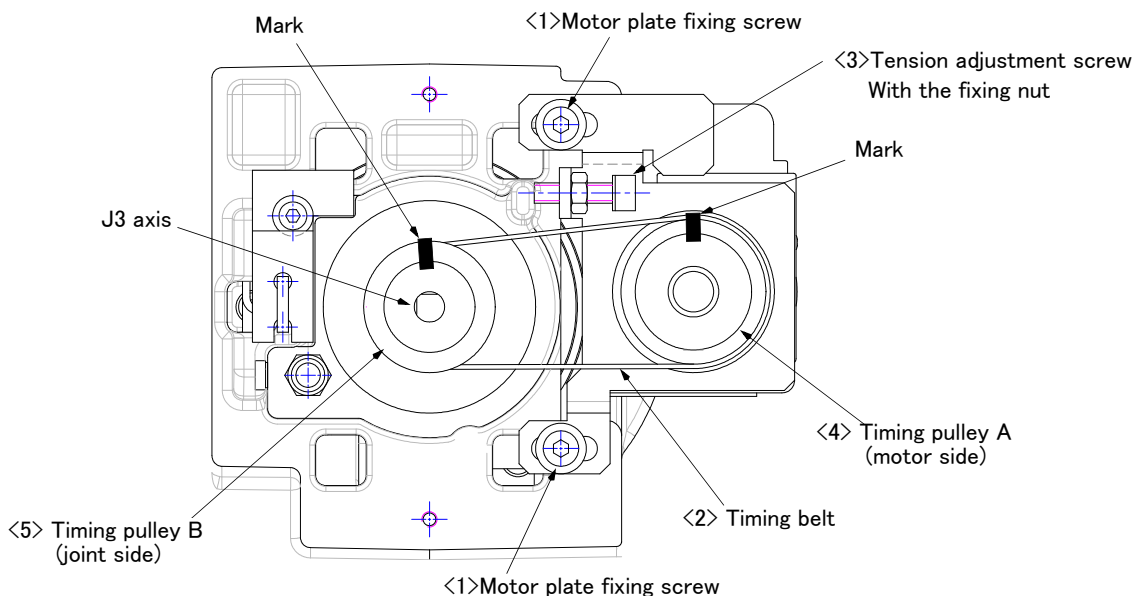

Fig.5-13 : Inspection and replacement of J4 axis timing belt (RV-2FR series)
The reference figure at inspection and replacement of the timing belt is shown in Fig. 5-13.
- 3) Make marks on the timing belt <2> and timing pulleys <4> and <5> with a felt-tip pen as shown in Fig. 5-13 so that the engagement of the timing belt <2> and timing pulleys <4> and <5> does not deviate.